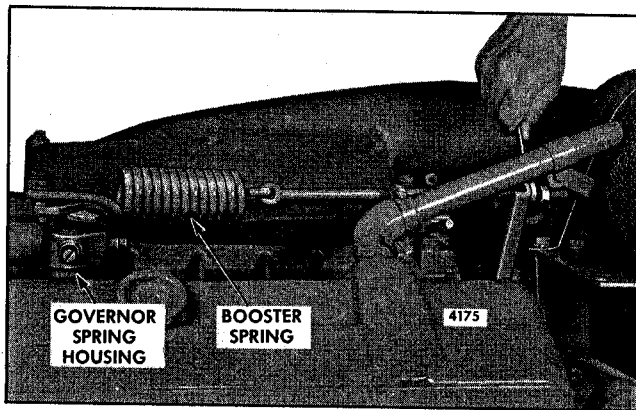

Fig. 28 - Adjusting Booster Spring
1. Refer to Fig. 28 and disconnect the booster spring and the stop lever retracting spring.
1. Refer to Fig. 28 and loosen the booster spring retaining nut on the speed control lever. Loosen